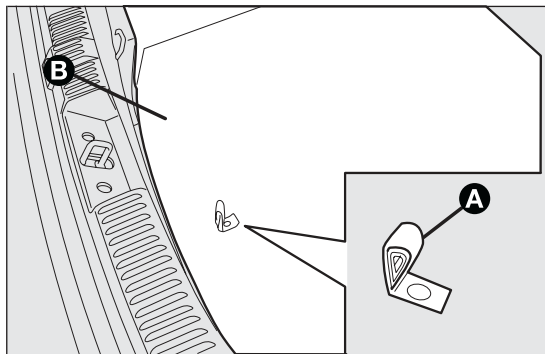

fig. 141
- ☐ turn the engine off and pull up the handbrake; engage first gear or reverse; use handle A to remove the rigid preformed cover B fig. 141;